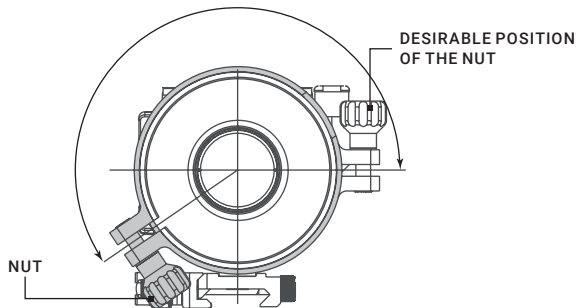

FIGURE 2-8. ESTIMATION OF THE SMS TURNING ANGLE
1. Decide on desirable position of the nut and estimate the angle through which the SMS should be turned CW (see Figure 2-8).